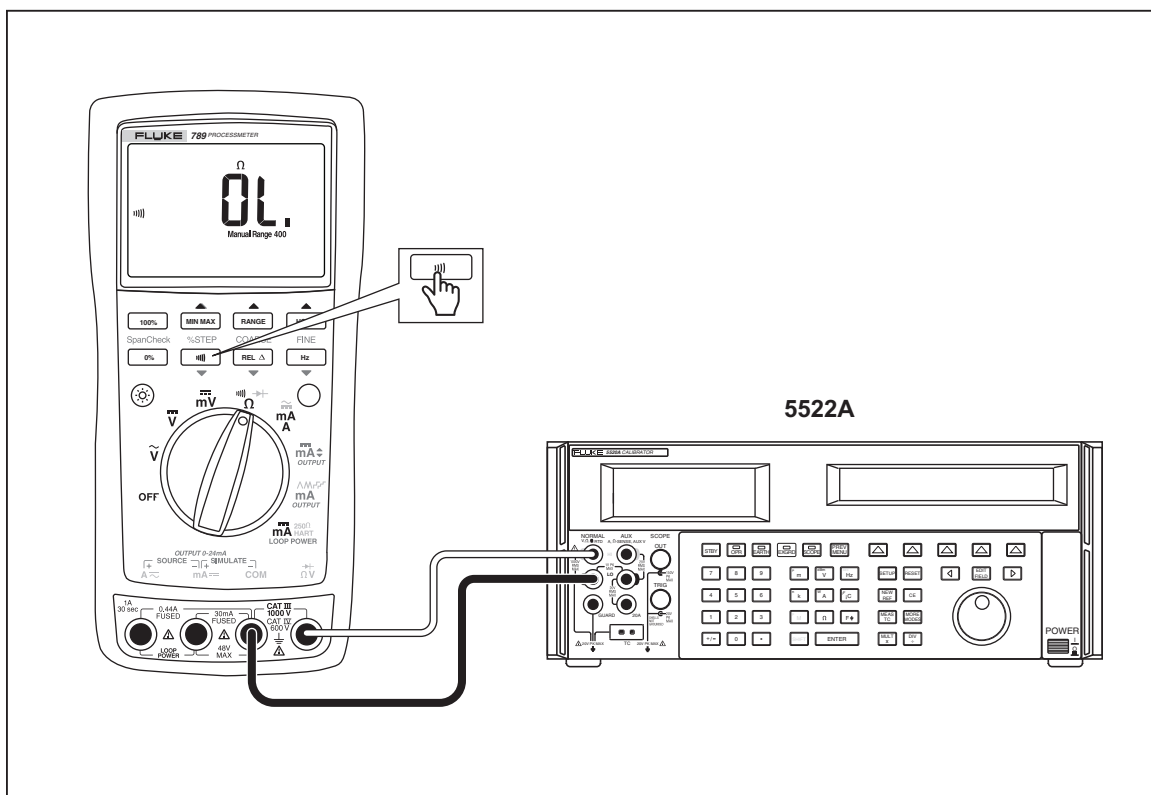

Figure 6. Continuity Test Connections
2. Connect the calibrator to the **COM** and Ω/V terminals on the UUT as shown in Figure 6.